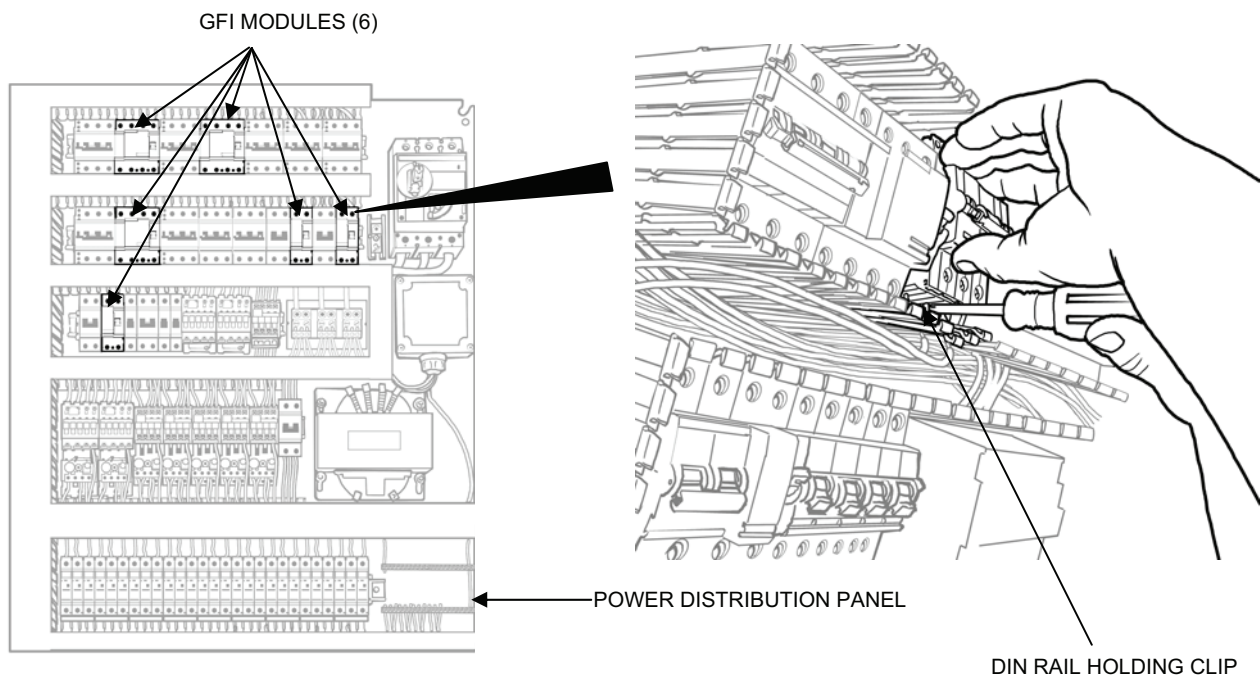

Figure 3. GFI Module Replacement.
1. Remove a GFI module as follows (see Figure 3):